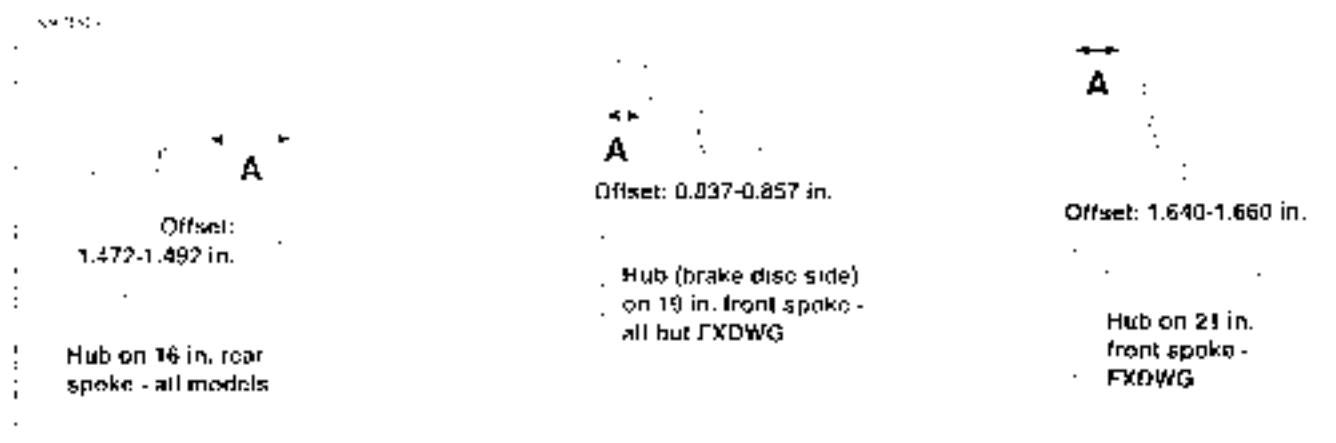

Figure 2-51. Laced Hub Offset Dimension
3. Lay a straightedge across hub on axle disc flange and one of the marked spoke groups. Measure distance "A" from the straightedge to the location shown in Figure 2-51.